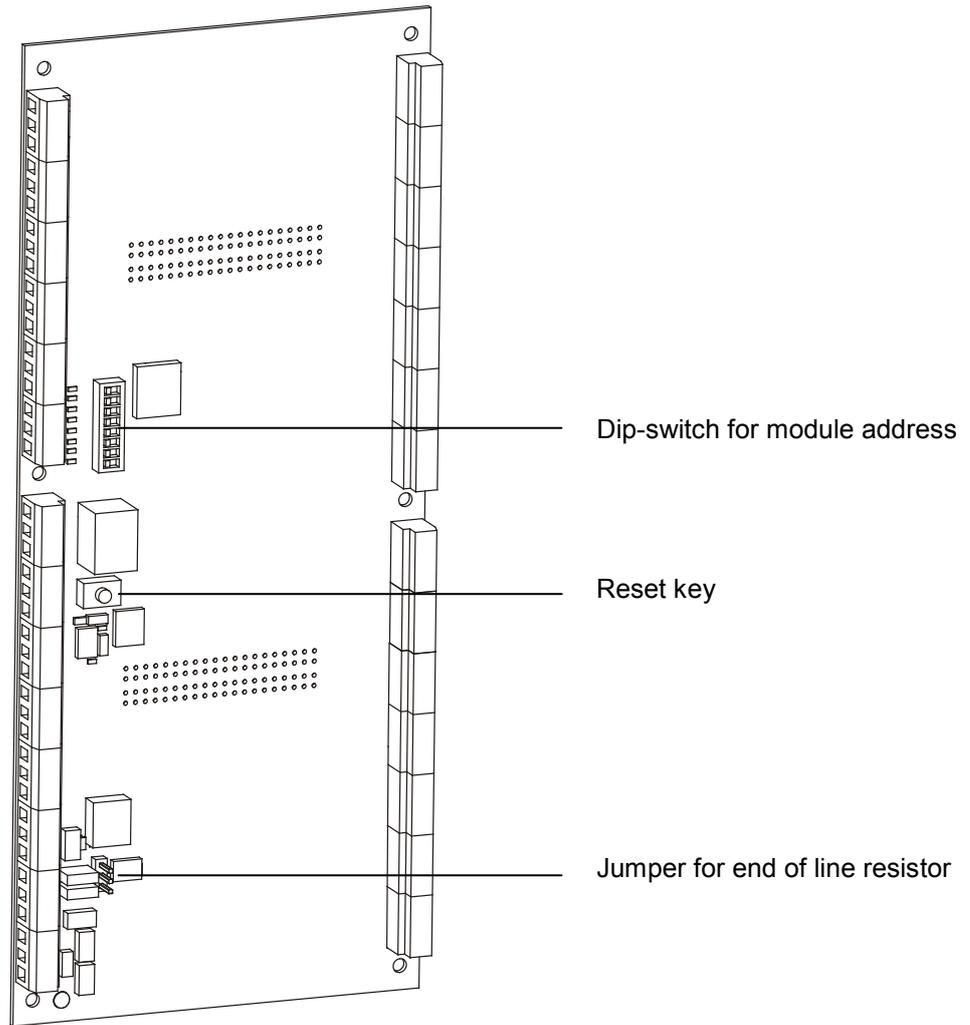

Fig.1
- Connect the jumper depending on if the FTM1811 is placed the end of FR18-BUS(CAN-Bus) line (refer to Fig.1).